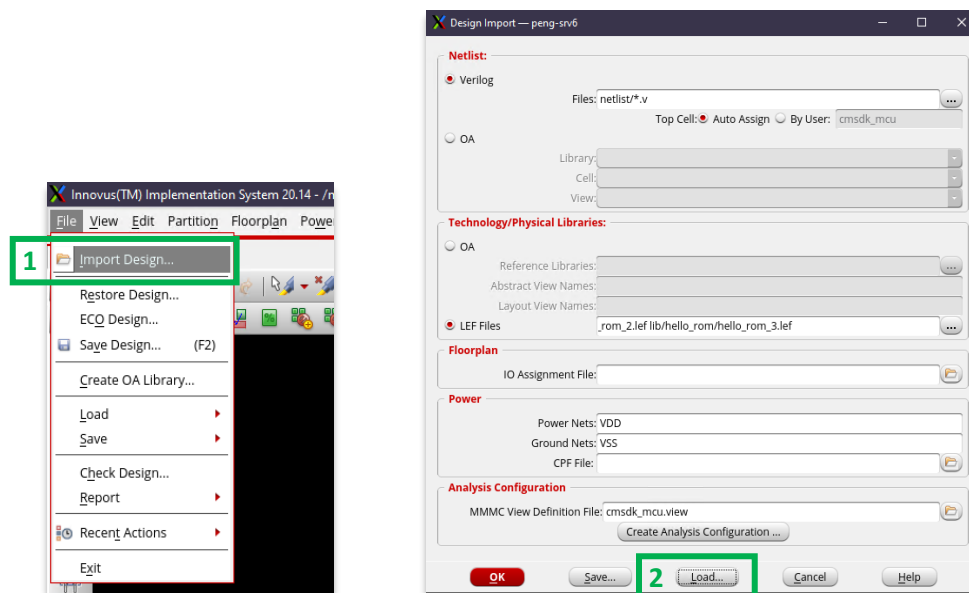

Fig. 1: Loading the design using the `.globals` file
2. Within the Innovus prompt, type "`cd ..`" to come back to the top-level directory and follow the steps shown in Fig. 1 to load the design settings using the `cmsdk_mcu.globals` file.